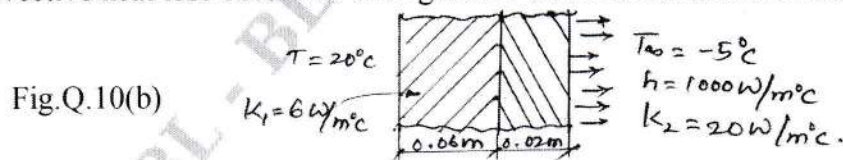

Fig.Q.10(b)
b. Determine the temperature distribution through the composite wall as shown in Fig.Q.10(b). Convective heat loss occurs on the right side surface. Assume a unit area.